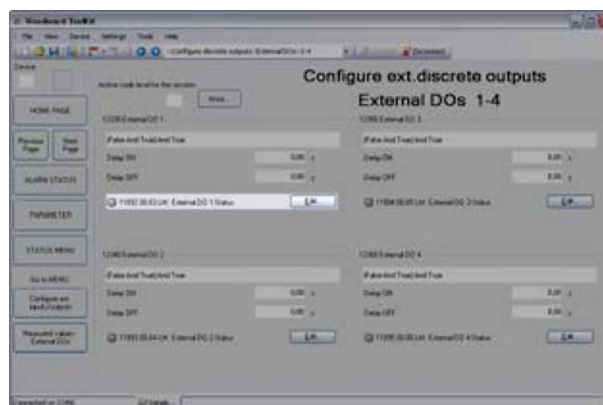

Fig. 195: Setup of external DOs
1. ➔ Set up the external discrete outputs using the ToolKit screen shown in (Fig. 195).